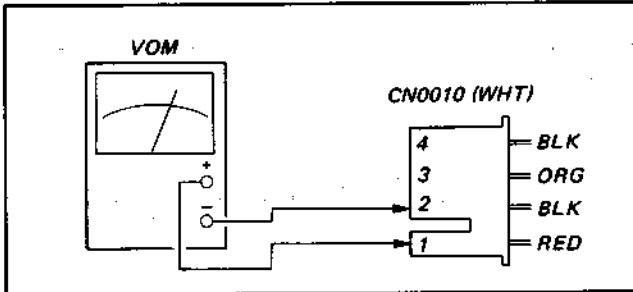

Fig. 4-1-2.
- (1) Remove CN0010 off the FS-6 board.
- (2) Connect the VOM at the point shown in Fig. 4-1-2.